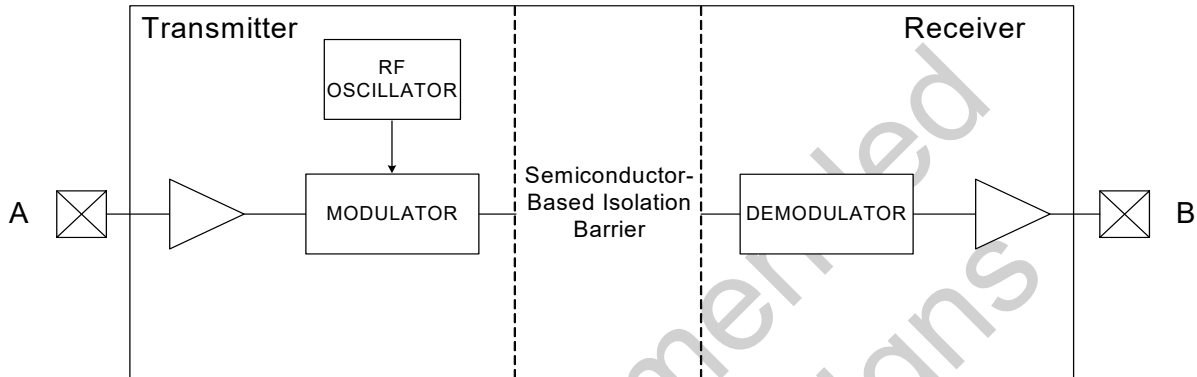

**Figure 2. (NB SOIC-16) Thermal Derating Curve, Dependence of Safety Limiting Values with Case Temperature per DIN EN 60747-5-2**
1. Maximum value allowed in the event of a failure; also see the thermal derating curve in Figure 2.